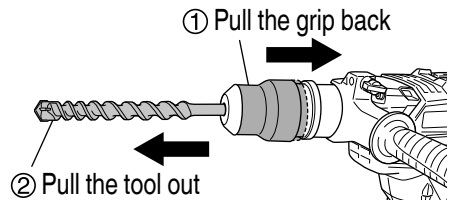

Fig. 10
- (4) To remove the tool, fully pull the grip in the direction of the arrow and pull out the tool (**Fig. 10**).